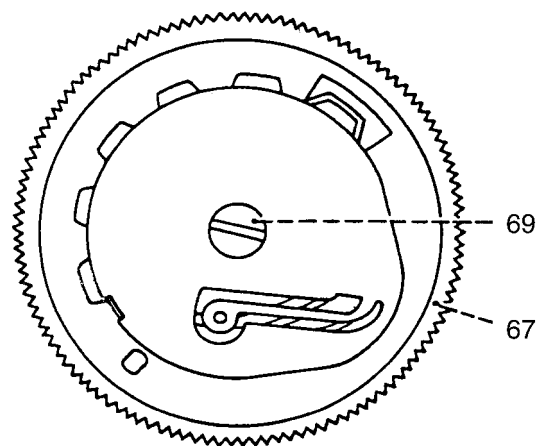

Fig. 25
- Loosen screw 69 (Fig. 25).
- Firmly tighten screw 69 (fig. 25).